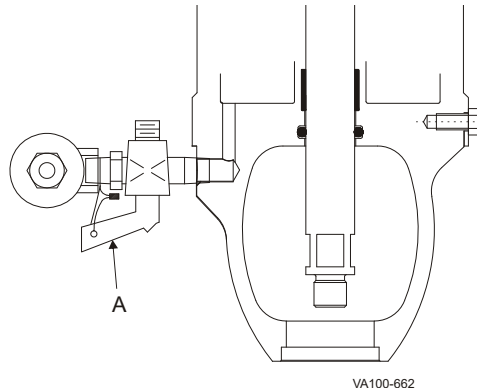

Figure 24: Air Shutoff Valve
2. Turn the "Air Shutoff Valve" (Figure 24, item A) to lock air in the actuator.